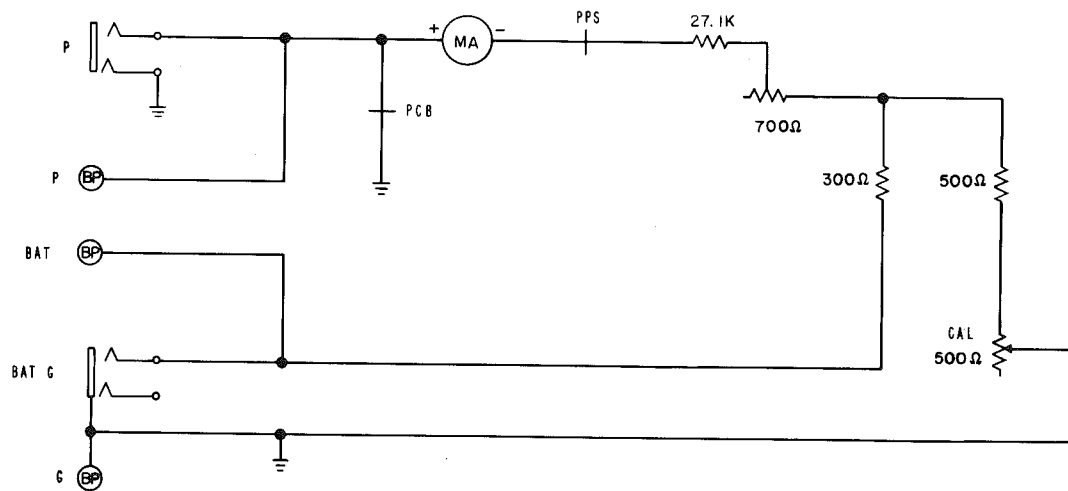

Fig. 2—Percent Break Test Circuit
- 3.01** A simplified schematic of the circuit as used for the percent break test is shown in Fig. 2. The meter is calibrated to read full scale or zero percent break with the PPS-PCB switch nonoperated. When the PCB switch is operated and interrupter contacts are connected across the tip and ring of the P jack, the meter reading will be inversely proportional to the percentage of time the interrupter contacts are closed.